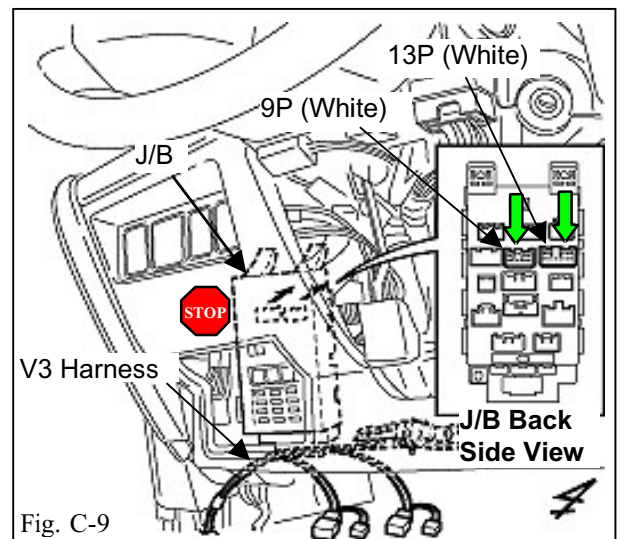

Fig. C-9
17. Locate and disconnect the white 9P connector and white 13P connector from the back side of the driver's side J/B. (Fig. C-9)